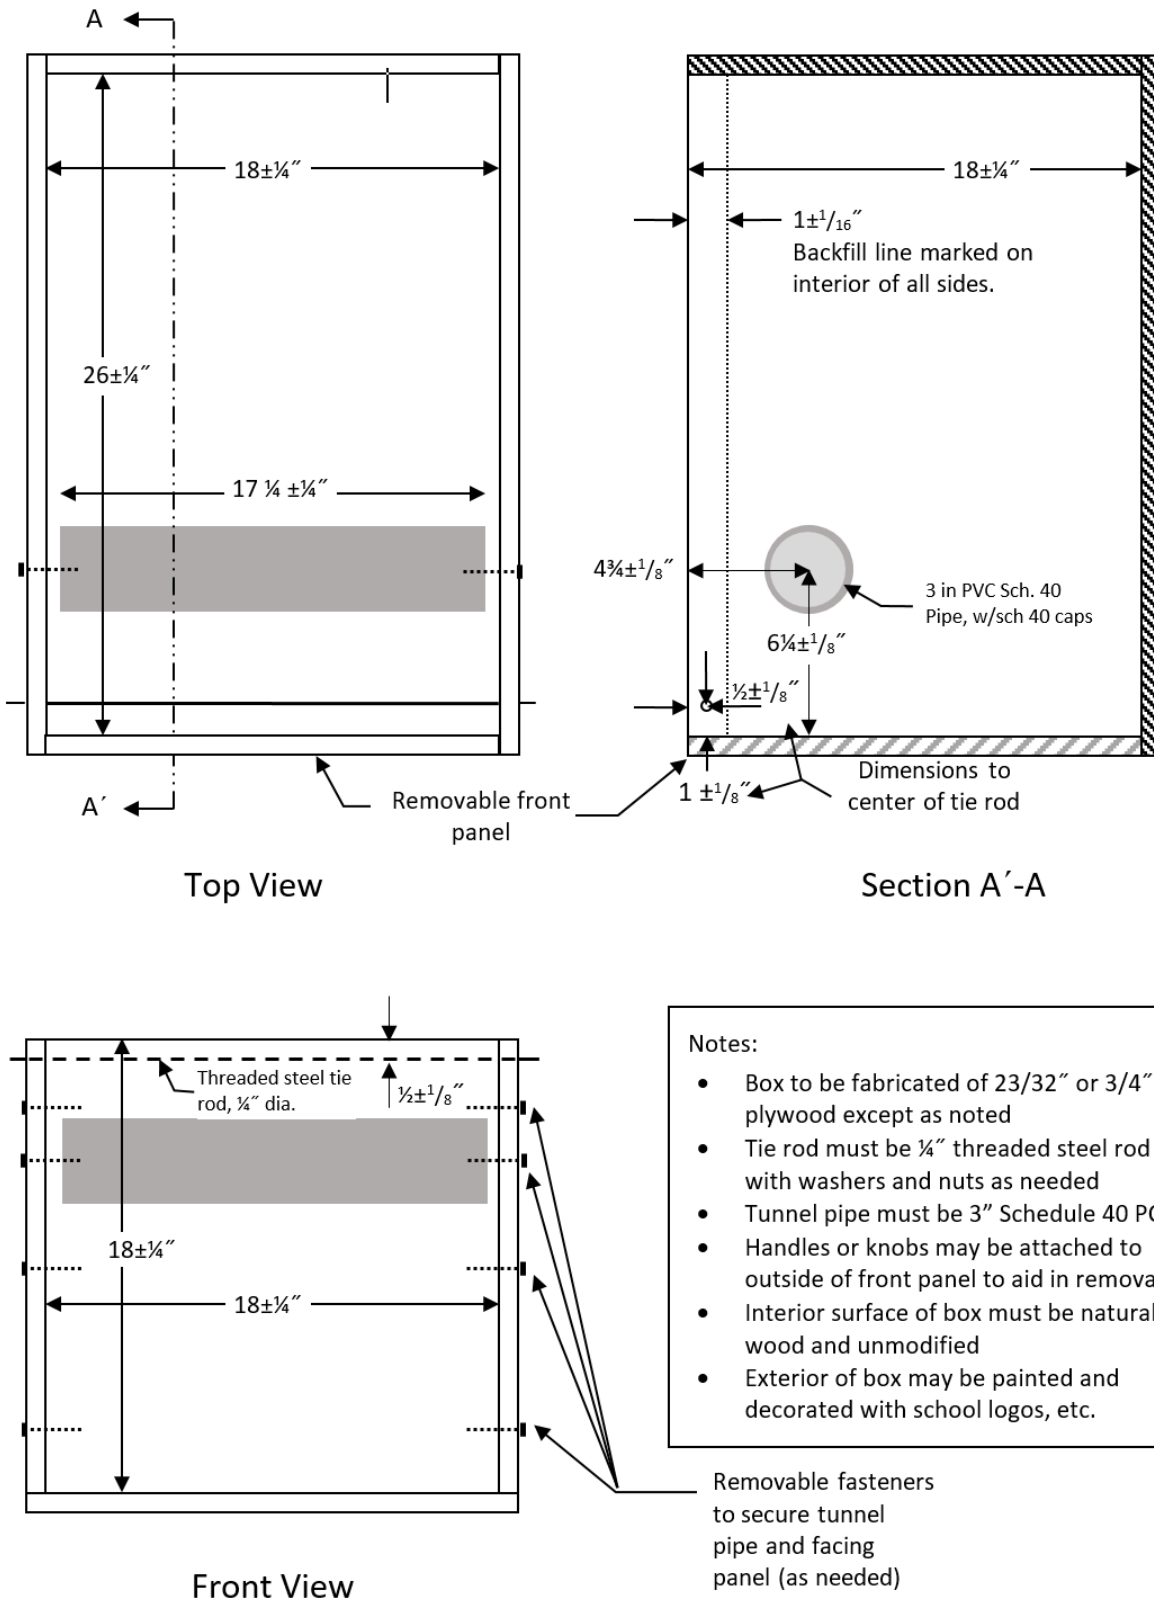

Figure 2: Sandbox dimensions (not to scale)
- 6. **Sandbox** – The MSE wall will be constructed within an apparatus hereafter referred to as a sandbox. Invited teams will be notified if they need to bring their own sandbox to the competition. The sandbox shall be made up of a bottom and four vertical sides with no top. The front panel will be removable as shown in Figure 2. The removable box panel will be in place during wall construction and removed after construction to expose the MSE wall. The sandbox will also include a PVC pipe used to represent the tunnel. Invited teams will be notified if they need to bring their own PVC pipe to the competition. Dimensions of the sandbox and the PVC pipe are shown in Figures 2 through 4. The sandbox shall meet the following requirements:
- c) Have a removable front as shown in Figure 2. Panels must be flush with the base of the box and held in place with threaded inserts, screws, hinges or other easily removable fasteners.
- h) All dimensions of the sandbox shall be as shown in Figures 2 and 3.
- c) **Construction Stage** – After the wall is assembled and checked by the judges, the judges will instruct the team to start construction. During this stage, the team fills the box with sand so that the sand fill line (see Figure 2) is covered and the backfill is level, and places the empty 5 gallon vertical surcharge bucket on top of the sand centered 1 in behind the wall facing. The facing material must be in direct contact with the inside of the sandbox at all times during this stage. The tie rod may be removed from the box at the start of this stage, but it must be in place before any sand is placed in the box. Temporary templates or guides may be used during this stage so long as they are removed before the end of the stage.